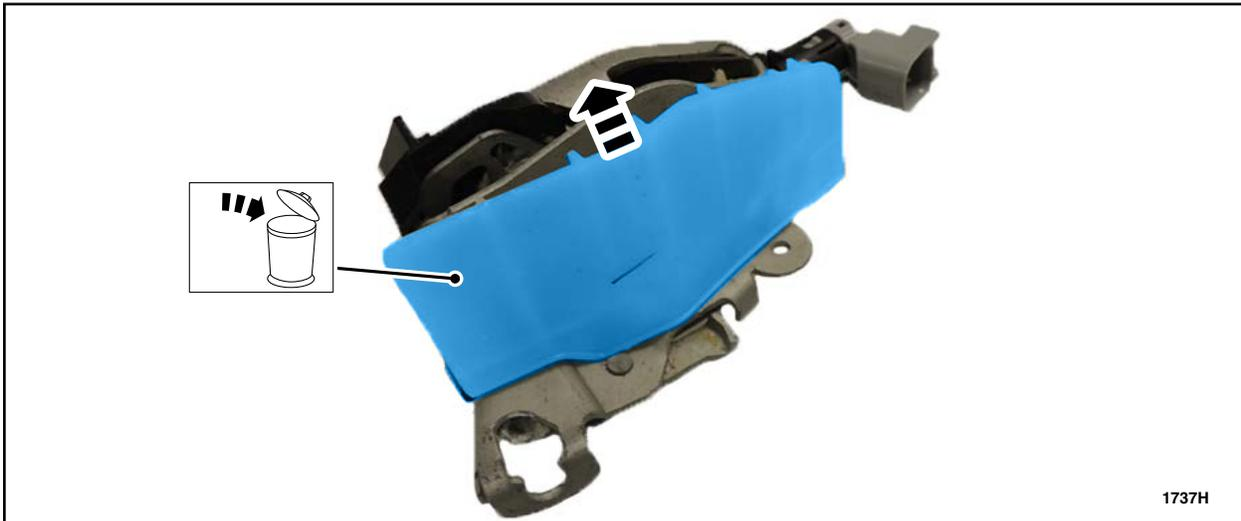

FIGURE 105
NOTE: Some F-150 SuperCab vehicles may be equipped with a smaller water shield than what is being installed in this program. The smaller shields must be removed and replaced. See Figure 105.
7. If equipped with small water shields, remove and discard the existing lower door latch water shields. See Figure 105.